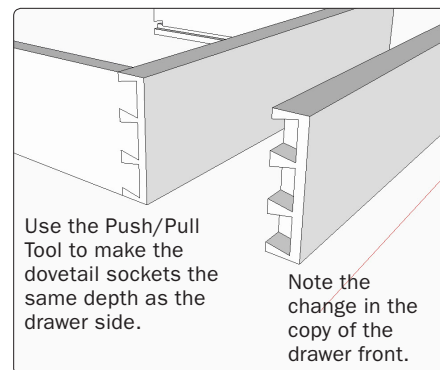

Figure 63. Push the dovetail sockets to the proper depth.
Step 51 Use the Push/Pull Tool to make the dovetail sockets the same depth as the drawer side (Figure 63). To ensure you push to the correct depth, click the mouse on the back edge of the side component.